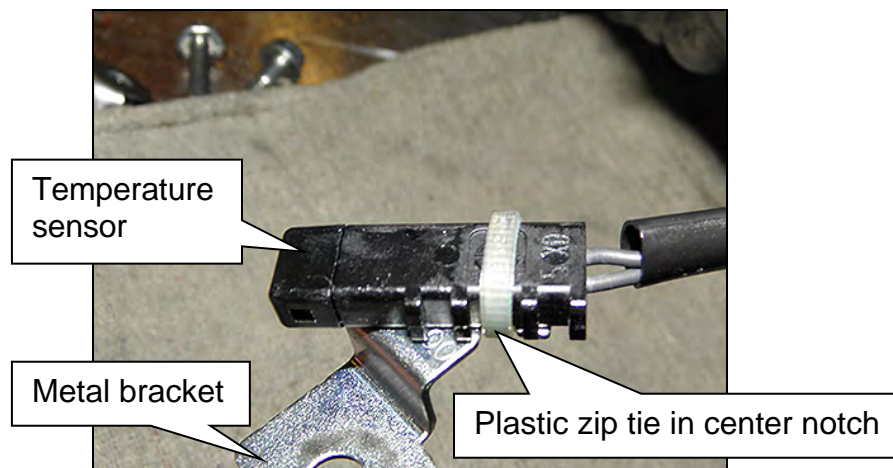

Figure 30
- a. Cut the plastic zip tie with an appropriate tool to remove the temperature sensor bracket from the terminal harness assembly. (Figure 30).